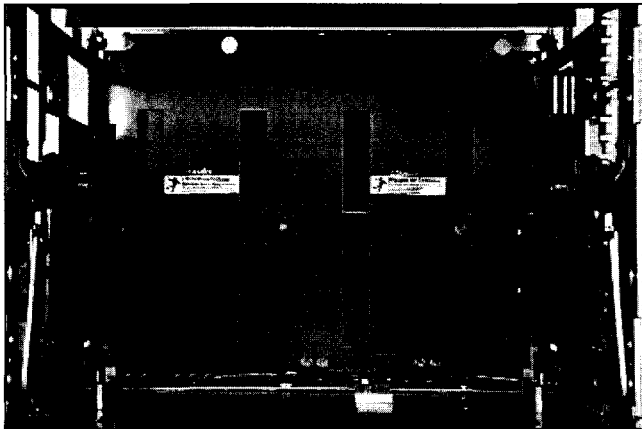
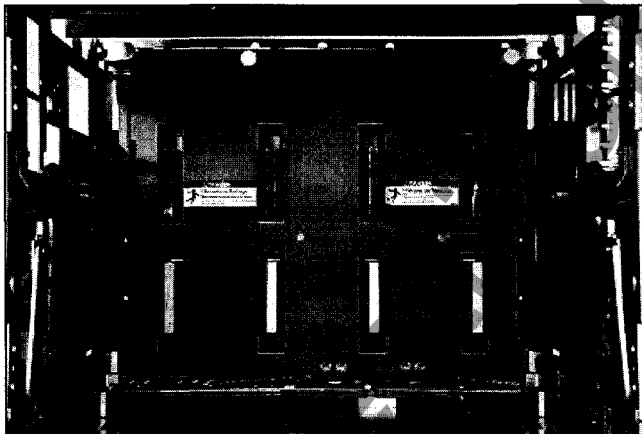

Figure 3-47 Typical Safety Shutters in Closed Position
Figure 3-48 Typical Safety Shutters in Open Position
**Cassette Safety Shutters** - Automatically operated insulating type safety shutters are available for use with the drawout cassette. When the drawout circuit breaker is levered from the CONNECT position, the shutters automatically close to cover the fixed primary contacts (Figure 3-47). When the circuit breaker is levered into the cassette, the shutters automatically open permitting primary connections to be made (Figure 3-48).